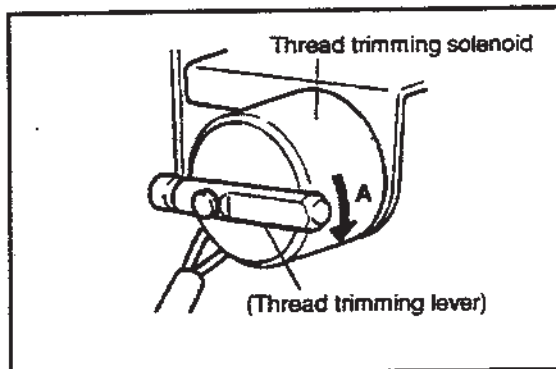
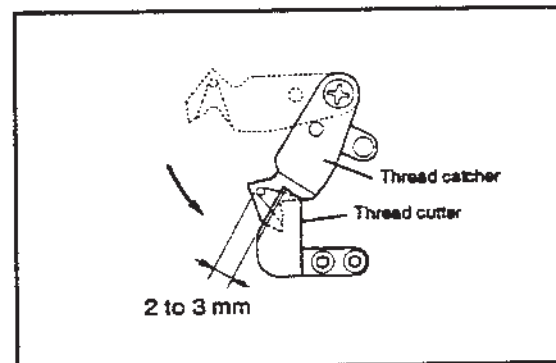

FIG.1
FIG.3
- (1) Remove the needle plate.
- (2) Remove the work table and work table B.
- (3) Turn the hand wheel counterclockwise until the needle bar is at the bottom dead center.
- (4) Turn the hand wheel counter clockwise until the needle bar is near the top dead center, while pushing the thread trimming lever in direction A (Fig.1).
- (6) Turn the hand wheel counter clockwise until the thread catcher completes a trimming cycle, while pushing the thread trimming lever in direction A (Fig.1).
- (7) Perform trimming again, and check that the felt pen marking on the thread catcher is scraped evenly (even contact).
- (8) Turn the hand wheel counterclockwise further, and check that the thread catcher makes an initial contact with the thread cutter at a clearance of 2 to 3mm (blade pressure: 0.6 to 1.5kg) (Fig.3).